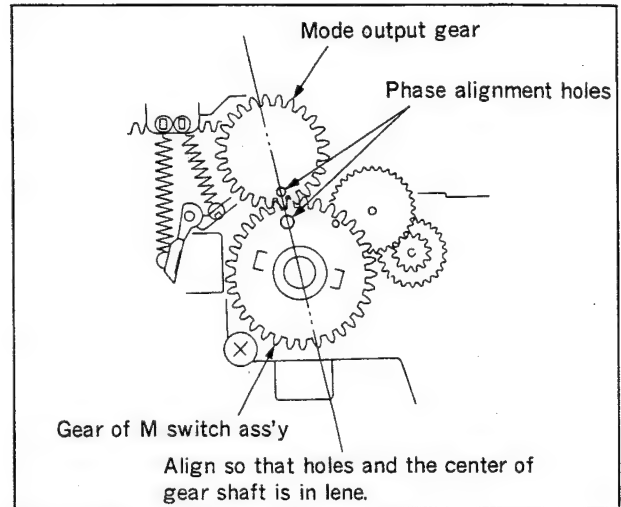

Fig. 4-23-5 Gear phase alignment
- 2) Rotate gear of M switch ass'y until the locating hole comes in line connecting the center of gear shaft and phase alignment holes. Install it on the shaft, as shown in Fig.4-23-5.